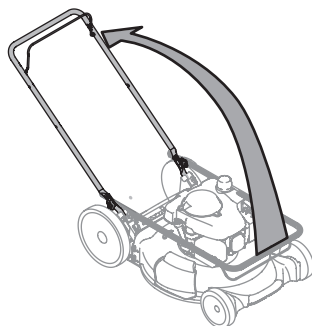

Figure 2
3. While stabilizing mower so it doesn't move, pivot upper handle up (Figure 2). Do not crimp blade control cable while lifting the handle up.